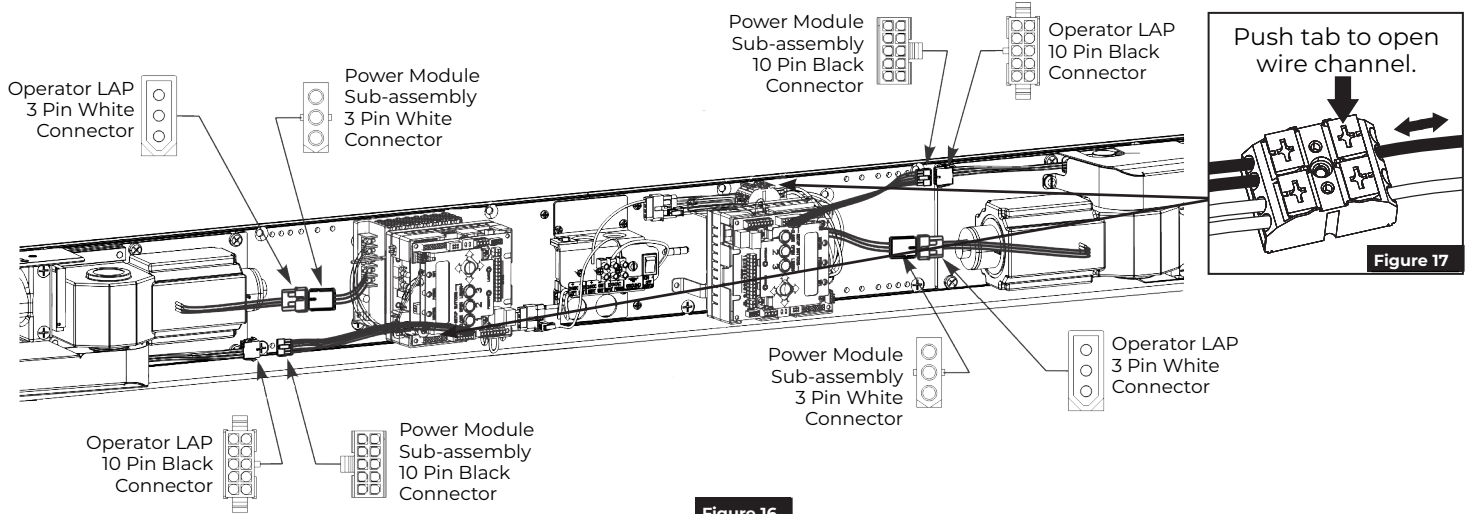

Figure 16
1. Attach 10-pin black connectors between each power module sub-assembly and its operator LAP. (Figure 16)
2. Attach 3-pin white connectors between each power module sub-assembly and its operator LAP. (Figure 16)